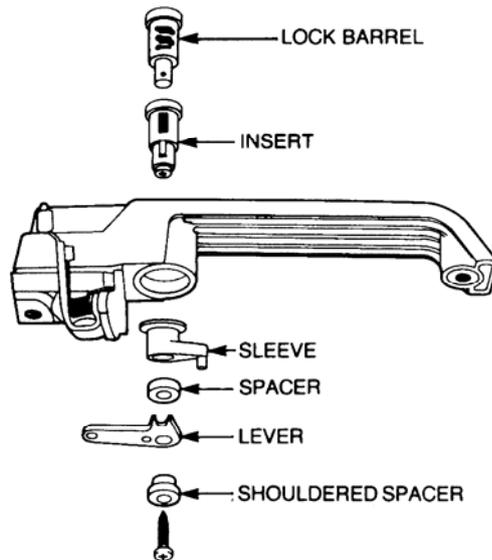

Figure 15 Lock Barrel Removal
- hh. Remove the screws securing the lock barrel lever to the lock barrel (refer Figure 15).